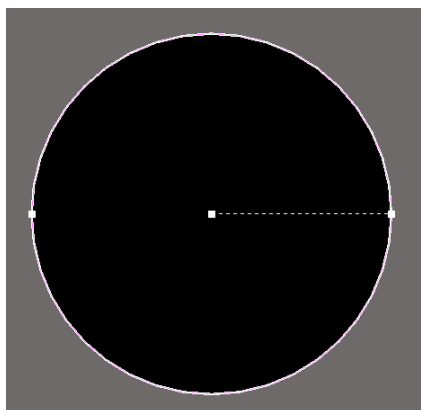

Figure 6. Defining the Board Shape from Selected Primitives
- To create a circular board shape, go to the menu **Design » Board Shape » Define from Selected Objects**. The black area, which is the board outline, should now be limited to the circle as shown in Figure 6.